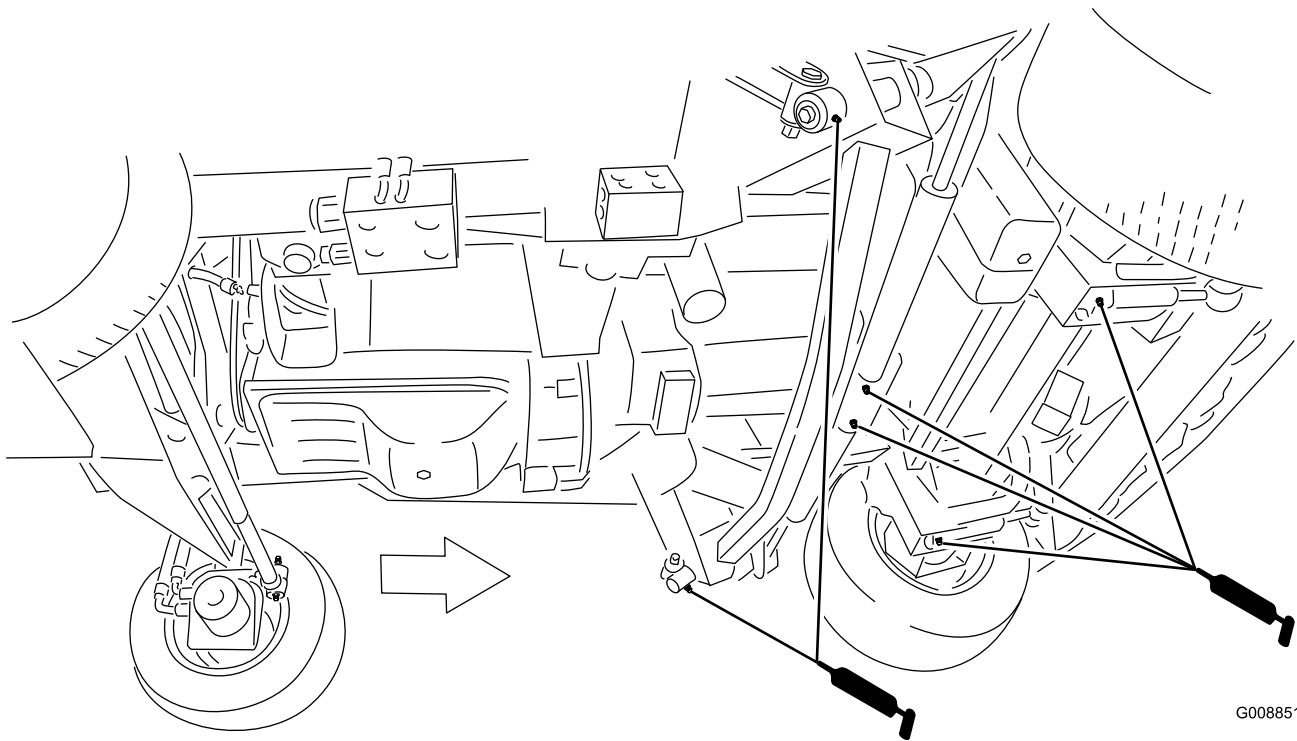

Figure 46
- Impact arms (2) (Figure 46)
- Front Deck Lift cylinder pivots (2) (Figure 46)
- Side Deck Lift cylinder pivots (2) (Figure 46)